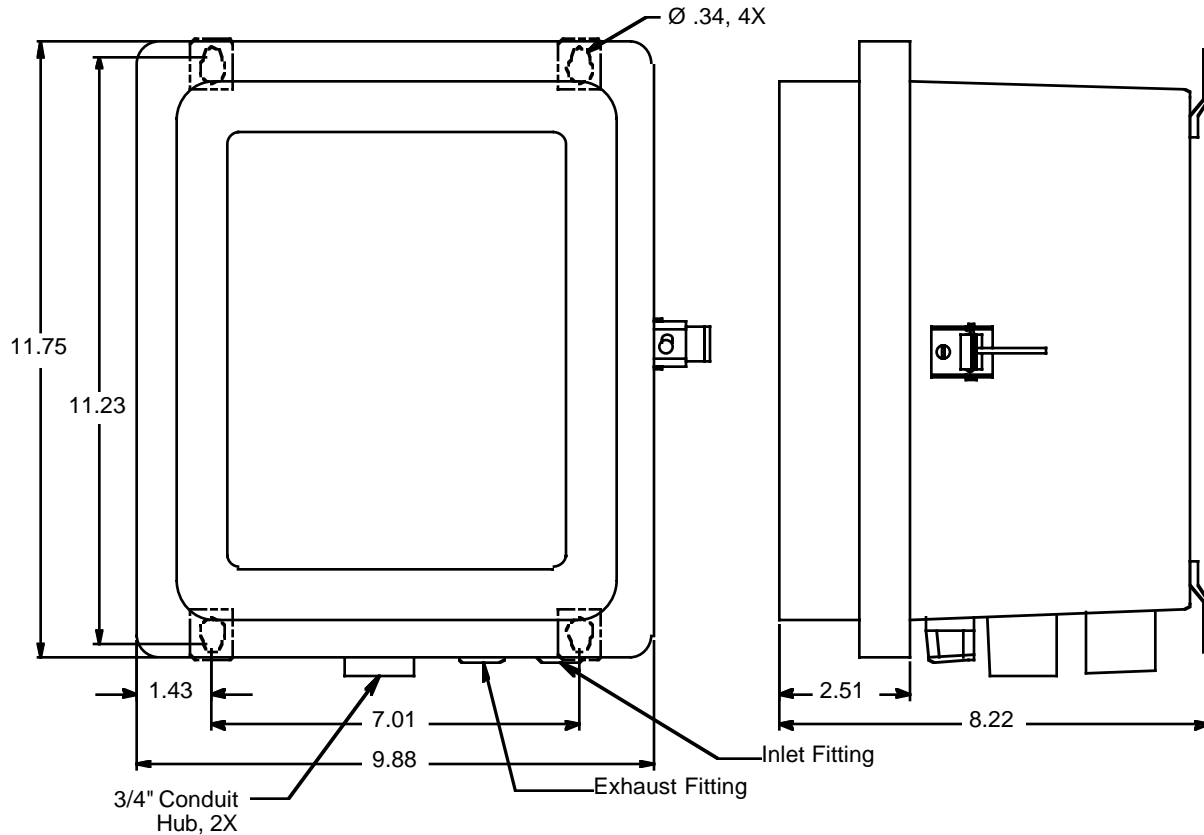

Figure 1: Outline & Mounting Dimensions/Component Location
- Use four 1/4" screws through the mounting feet to mount the GD-K7D24X to a vertical surface. See Figure 1 for the mounting dimensions.